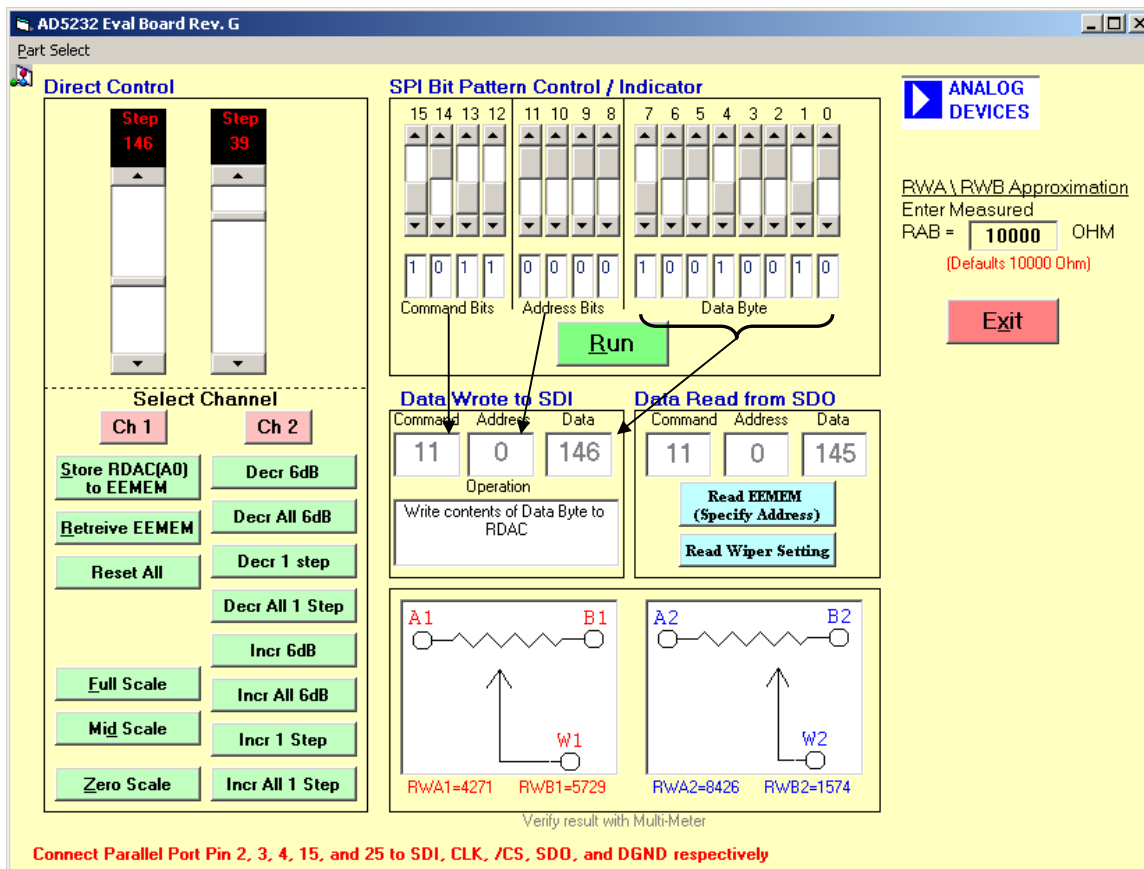

Figure 2. AD5232 Software Graphical Interface
- Open AD5232 Rev G.exe from Windows Start - Programs - AD5232 Rev G, the program is shown in Figure 2.